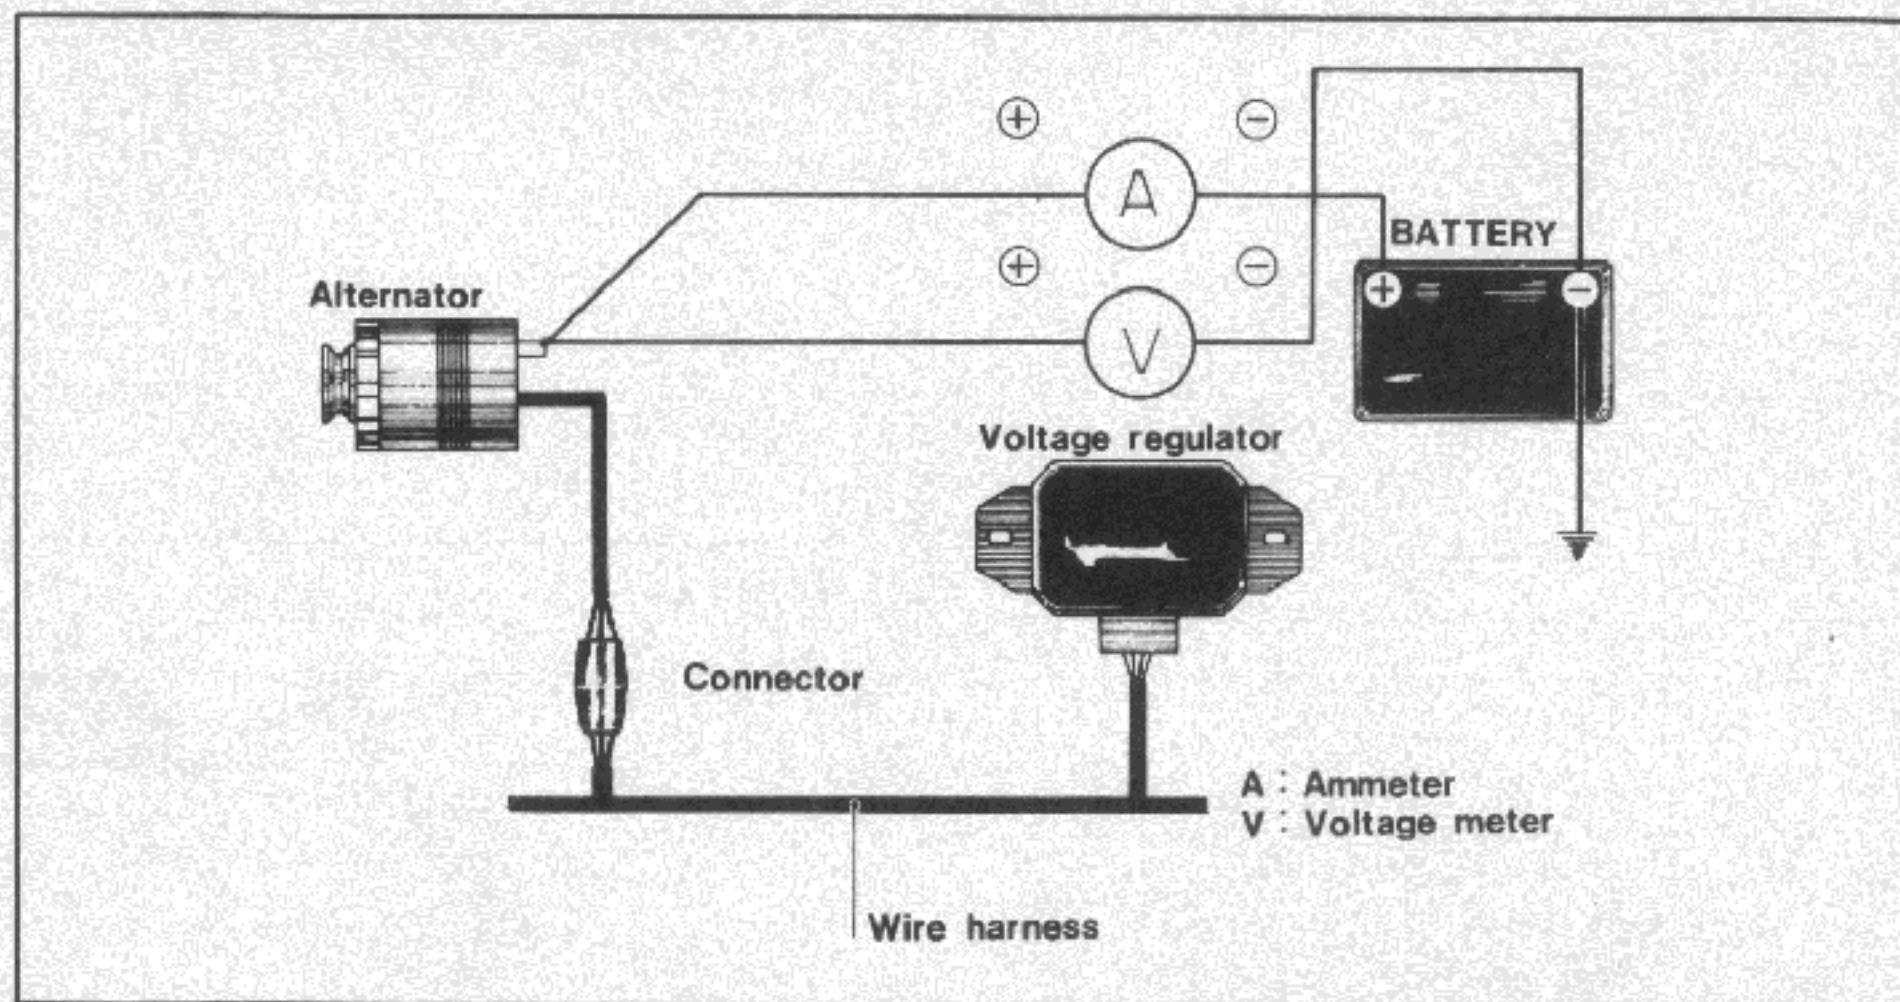

Fig. EE-69 Meter and instrument connection
1. Connect the battery almost charged in full as shown in Figure EE-69.